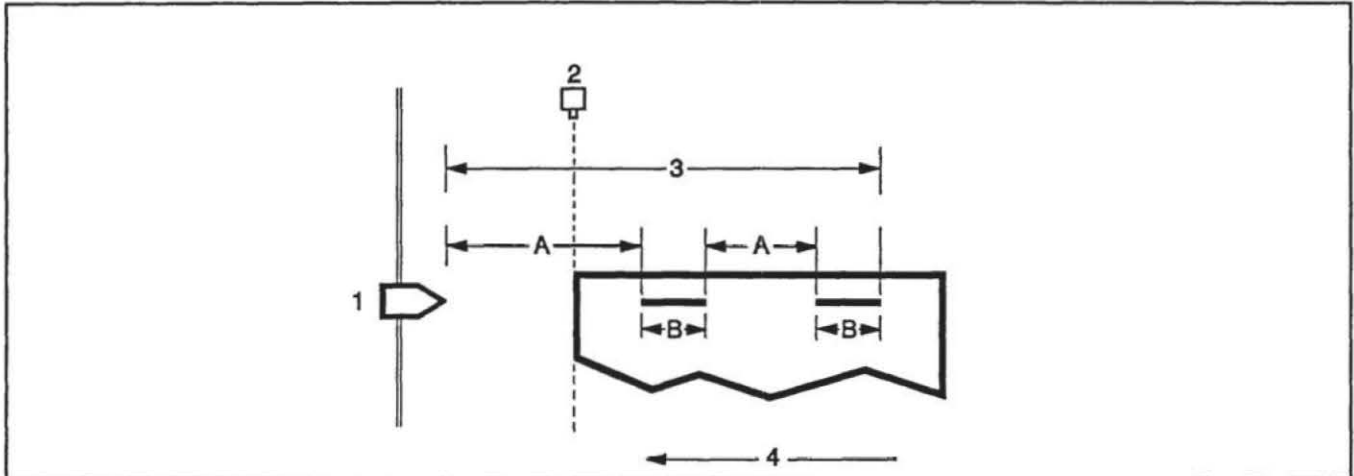

Figure 4.2 - Delays and durations
A change from one interval to the other: either a change from a delay to a duration or from a duration to a delay. The combination of delays and durations makes up a transition sequence (Figure 4.2).
**NOTE:** Nordson timers commonly use the first pattern interval as a delay. In Figure 4.2, the pattern consists of a delay, a duration, a second delay, and a second duration. Each new pattern starts with the first delay interval.